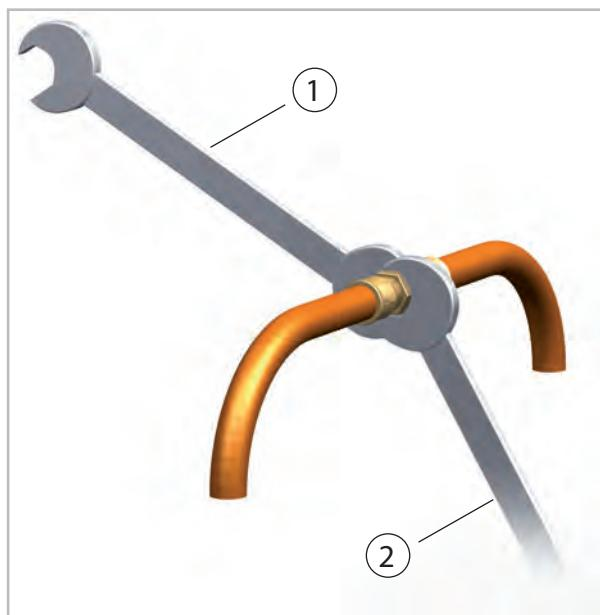

Fig. 21: Tightening the fitting
11. Then finally tighten the fittings with 2 appropriately-sized torque wrenches. Use one spanner to counter the force when tightening the fitting (Fig. 21).